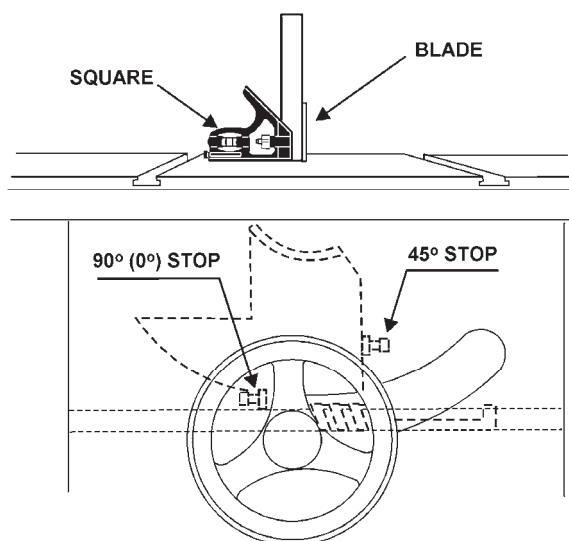

Figure 14
2. Using a combination square, check the 90° stop (Figure 14 shows the 90° stop being checked).